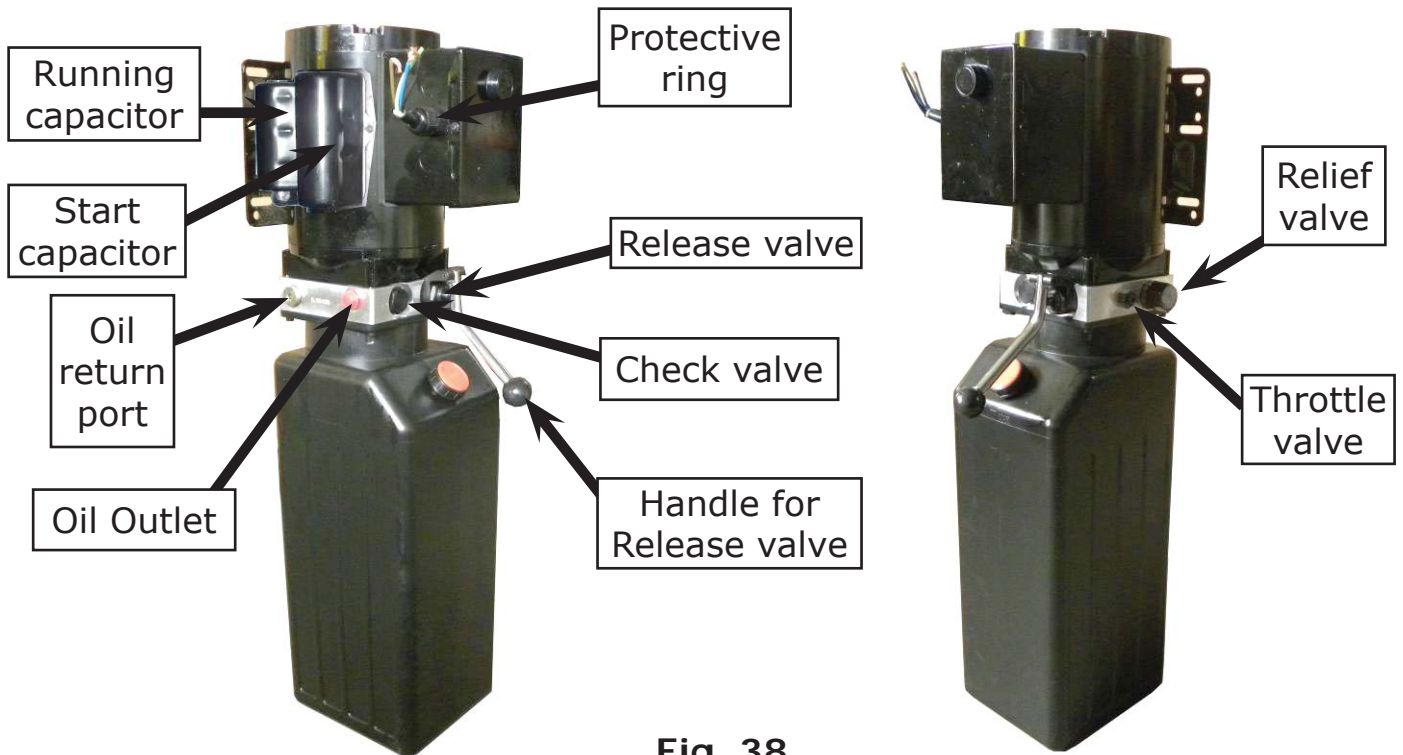

Fig. 38
b. Atlas manual power unit, 220V/50HZ, Single phase (See Fig. 38)